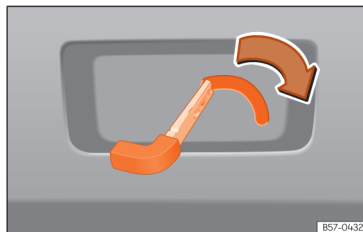

Fig. 64 Luggage compartment: manual release.
- Insert the key blade into the slot and move the key in the direction of the arrow until the lock unlocks >>> Fig. 64.